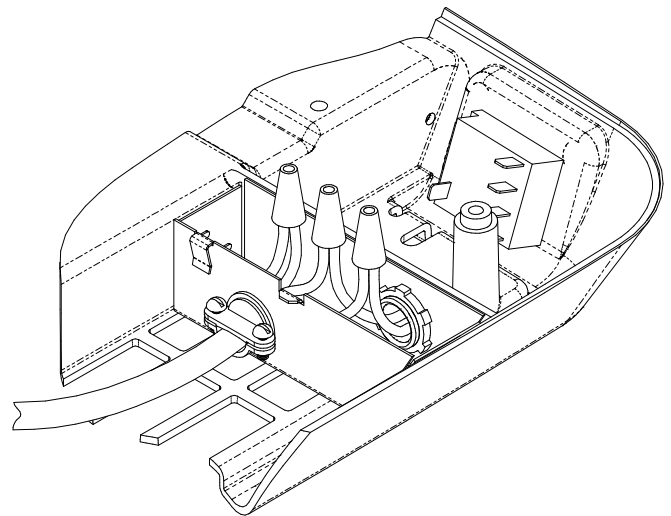

FIGURE 8
- F. Insert the supply wiring through the cable clamp and into the field wiring box so that 100-150mm of supply conductor is inside the box. Secure the cable clamp over the supply wire sheath so that no movement is possible (See Figure 8).
- G. Connect the supply power conductors to the “A” and “N” lugs on the terminal board. **IMPORTANT** – If power is from one “Hot” and one “Neutral” conductor, connect the neutral to “N”. Connect the ground wire to the “E” lug on the terminal board (See Figure 8).